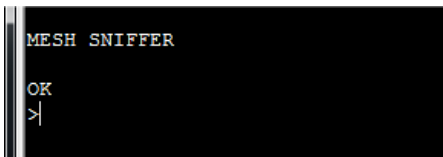

Figure 12: Sniff board message
5. Confirm you see the following for the Sniff board (Figure 12).